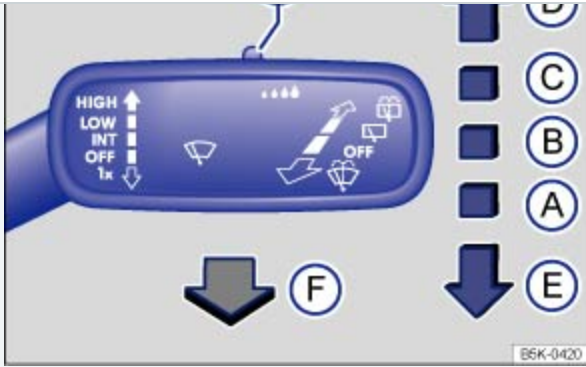

Fig. 90 Operating the front windshield wipers.
- Press the windshield wiper lever down briefly ⇒ *Fig. 90* when the ignition is off.
Carefully fold the wiper arms back onto the windshield before driving! Switch the ignition on and press the windshield wiper lever down briefly ⇒ *Fig. 90*. The wiper arms move back to their original position.